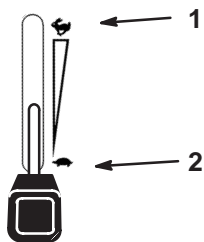

Figure 15
- Push the PTO to off (Fig. 15).
- Move the throttle lever midway between the slow and fast positions (Fig. 15).